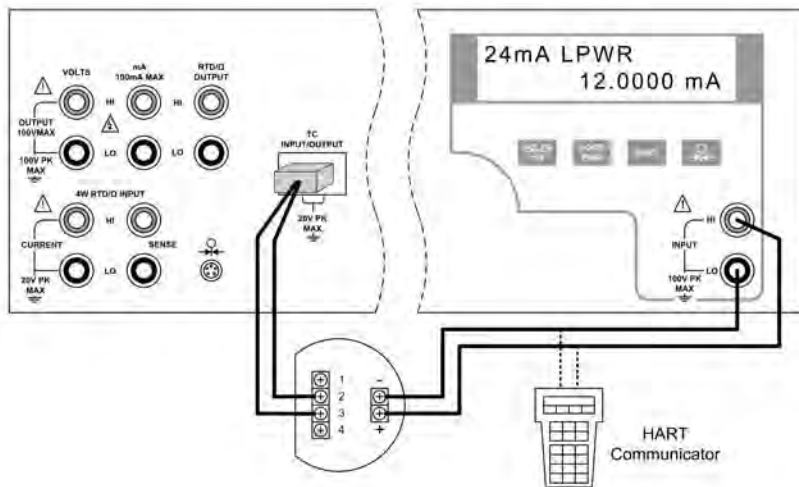

Figure 26 - Thermocouple Transmitter Application
4. Connect the transmitter as shown in figure 26.